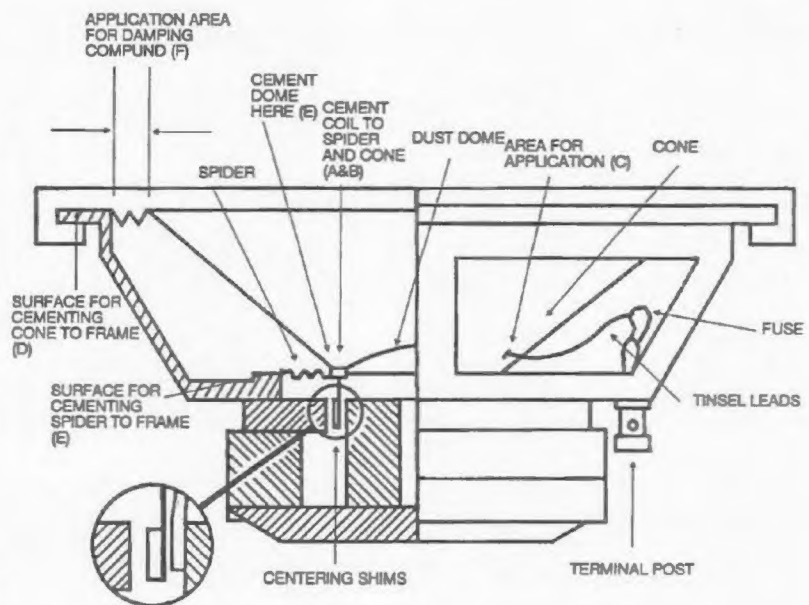

Figure 1 - EVX Gluing Instructions
4. Remove the white heat shrink tubing from the fuse that is attached to the positive input terminal (see Figure 1). Check the continuity of the fuse using an ohmmeter. Replace the fuse with a BUSS GFA-10 (10 A, FAST BLOW) fuse if necessary. **CAUTION: REPLACE THIS FUSE ONLY WITH ONE THAT IS OF THE SAME TYPE AND RATING.**
13. Slide the piece of heat shrink tubing (EV #A66093) over the tinsel lead that attaches to the fuse which is connected to the positive input terminal (see Figure 1). Solder the tinsel lead to the fuse using a 10 W, 500°F soldering iron. Using an iron of higher temperature may damage the fuse. Slide the tubing over the fuse and shrink using a heat gun.